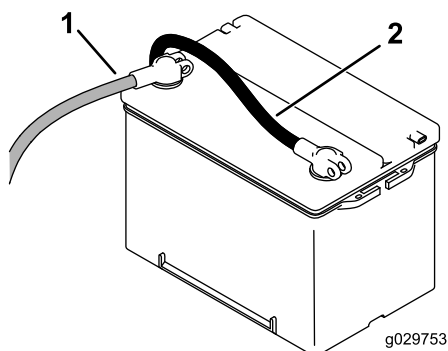

Figure 53
- To de-energize the machine electrically, rotate the battery-disconnect switch counterclockwise to the OFF position (Figure 53).
5. Install the positive cable (red) to the positive (+) terminal and the negative cable (black) to the negative (-) terminal of the battery (Figure 53).